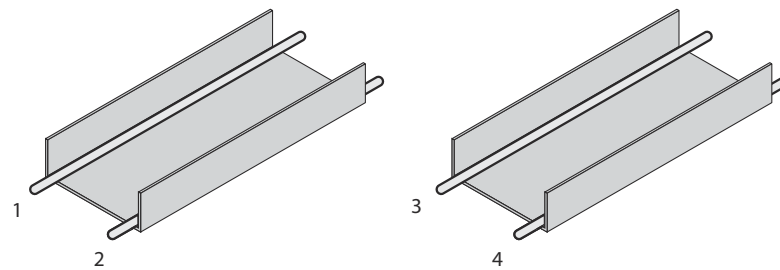
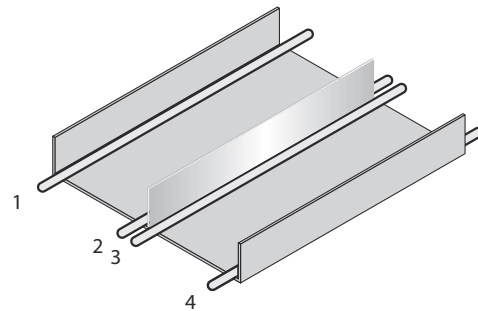

Figure 29: Ideal laying – Place cables in different cable channels
Figure 30: Alternative laying – Separate cables with metallic separators
- ▶ Route the cables in groups 1, 2 and 3, 4 in different cable channels or use metallic separators (see figure 29 and see figure 30). This applies particularly if cables of devices with a high level of radiated emission, such as frequency converters, are laid parallel to device cables.